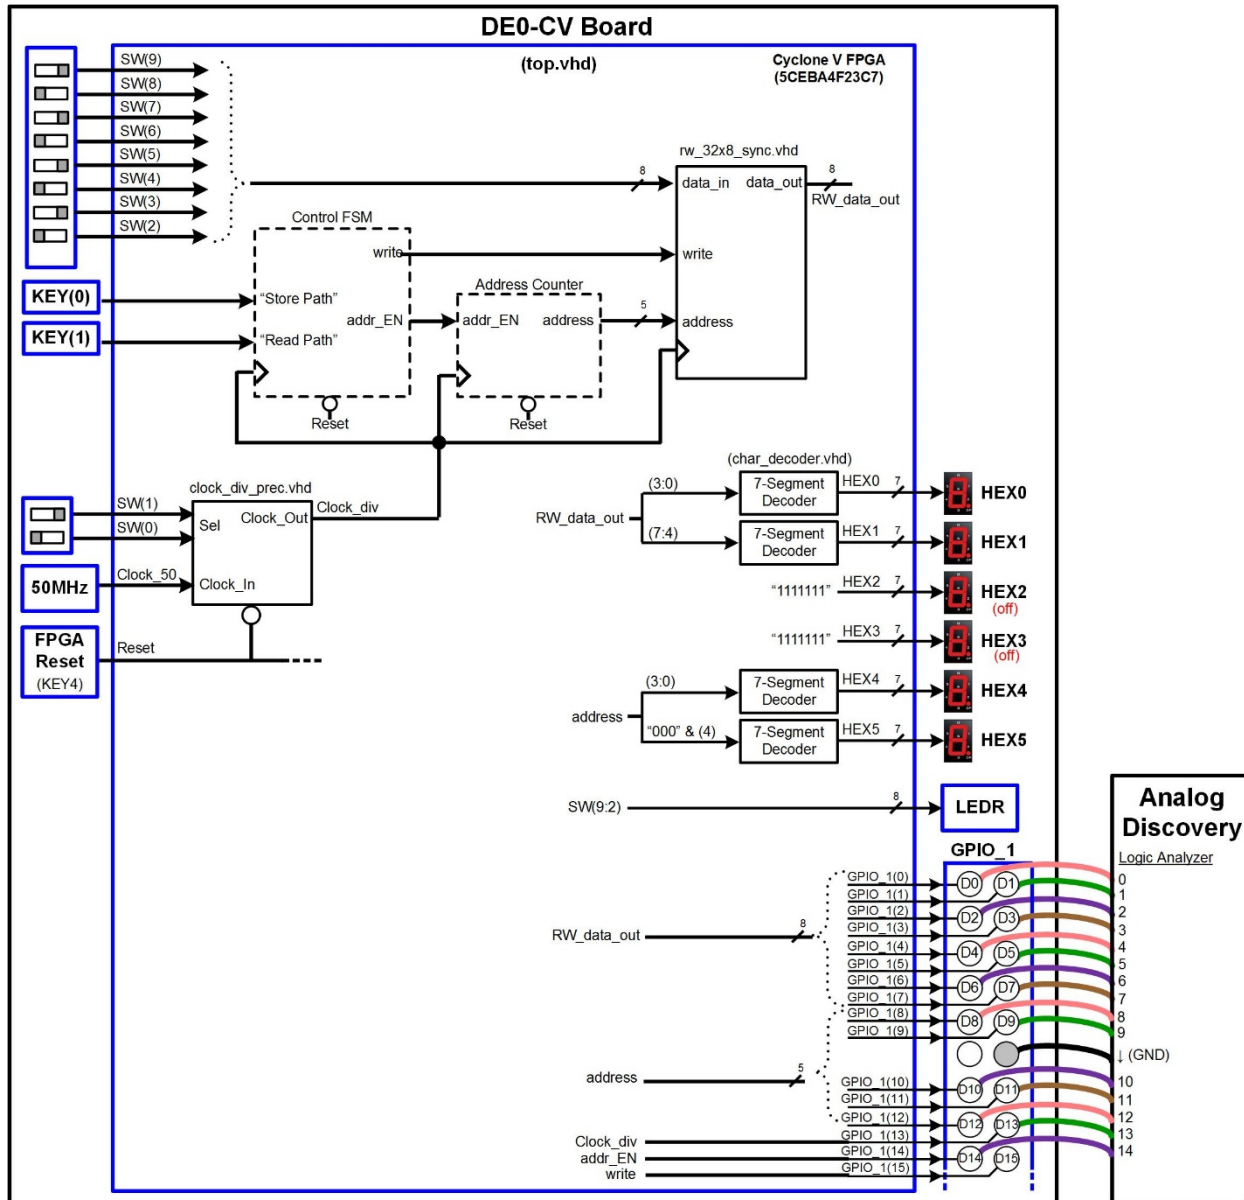
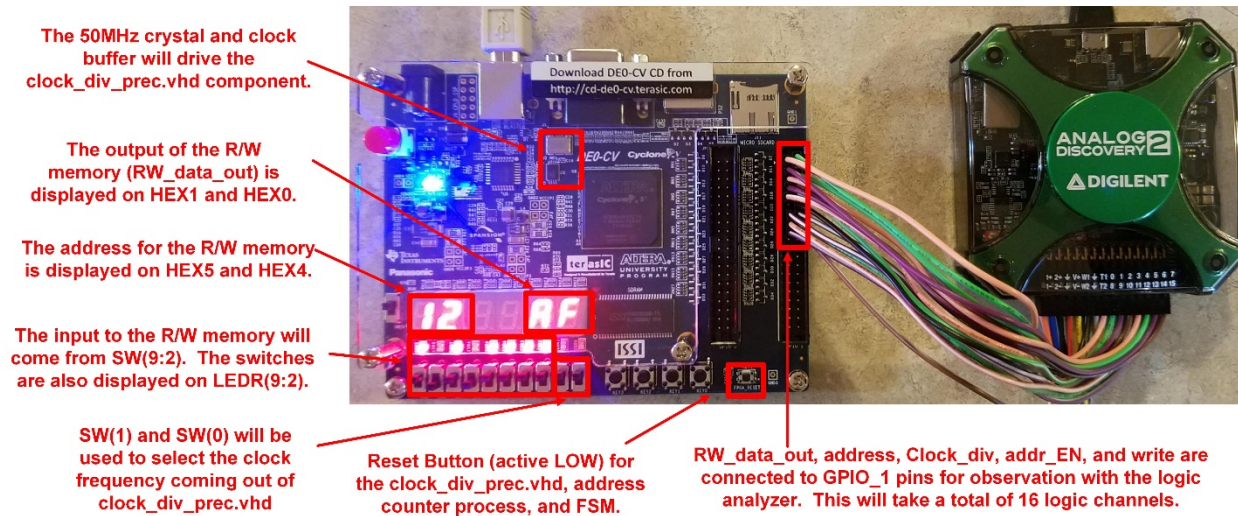

Figure 10.6
Figure 10.7
When KEY(0) is pressed, the information on the slider switches will be written to the next address in the R/W array. The control FSM will enable the address counter for one increment and then assert the write signal for the memory. In this way, information can be populated into the R/W array by setting values on the switches and continually pressing KEY(0). When KEY(1) is pressed, the address counter will run freely in order to output the data at each location within the R/W array. In this way, the contents of the array can be verified to ensure that the write operations were successful. All critical signals will be connected to pins on the GPIO_1 header for observation with the logic analyzer. Figure 10.6 shows a block diagram of the R/W system.
Figure 10.7 shows a picture of the R/W memory system implemented on the DE0-CV board.
Now you are going to take a logic analyzer measurement of the R/W system during a store. Connect the logic channels 0 → 15 of the Analog Discovery to the GPIO_1 header as shown in Figure 10.6 and Figure 10.7. Make sure to connect a ground of the Analog Discovery to a ground on the GPIO_1 header. Launch Waveforms and click on the Logic tool. In the logic analyzer tool, add new busses for "address" and "RW_data_out" and assign the logic channels accordingly. Set the format for these busses to **Hexadecimal**. Add new signals for Clock_div, addr_EN, and write and assign the logic channels accordingly. Configure the following logic analyzer settings: